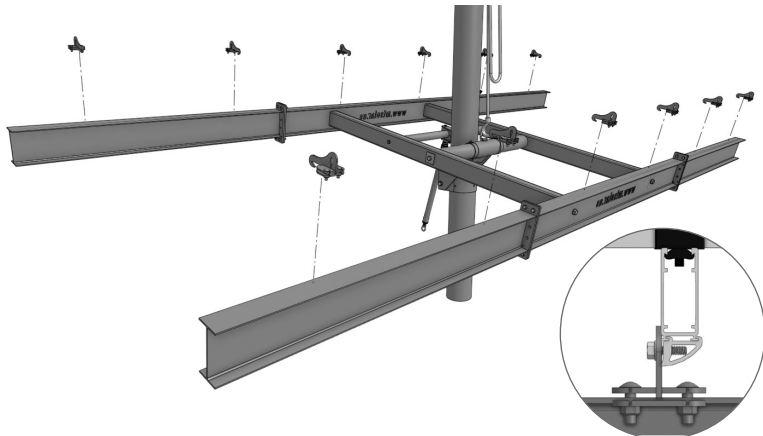

figure 1
- 6-1:** Plan the rail layout according to the module manufacturer's recommendation. See figure 1 for how rails align with clamps.
- 6-2:** Install Beam Clamps with hooks toward the center of the mount, using hardware (I) and tighten.